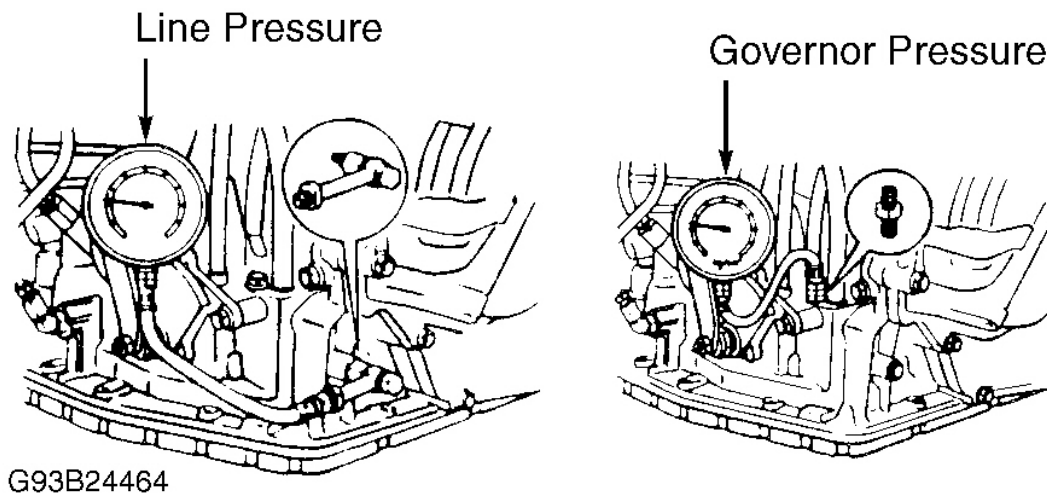

Fig. 8: Checking Governor & Line Pressure
1. Remove appropriate transaxle case plug and connect pressure gauge. See **Fig. 8**. Block all wheels. Apply parking brake. Start engine and shift into "D" position. Ensure idle speed RPM is set to specification.
1. Apply parking brake. Raise and support front of vehicle with safety stands. Remove appropriate transaxle case plug and connect pressure gauge. See **Fig. 8**.